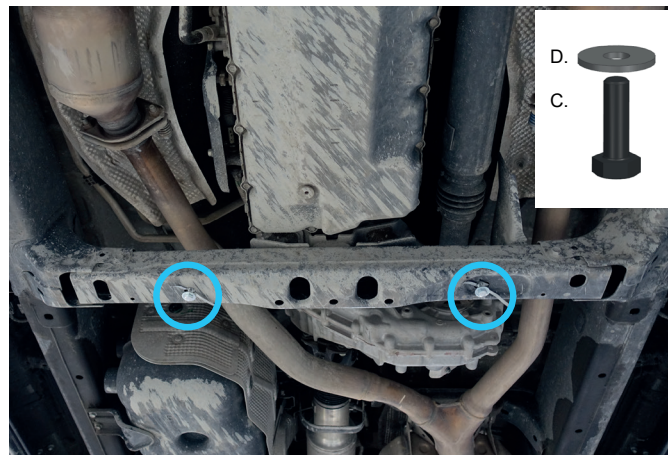

Fig. 6
6. Screw in bolts M8x25 (item C) together with washers 8 (item D) for 2-3 turns, as shown in fig.6.